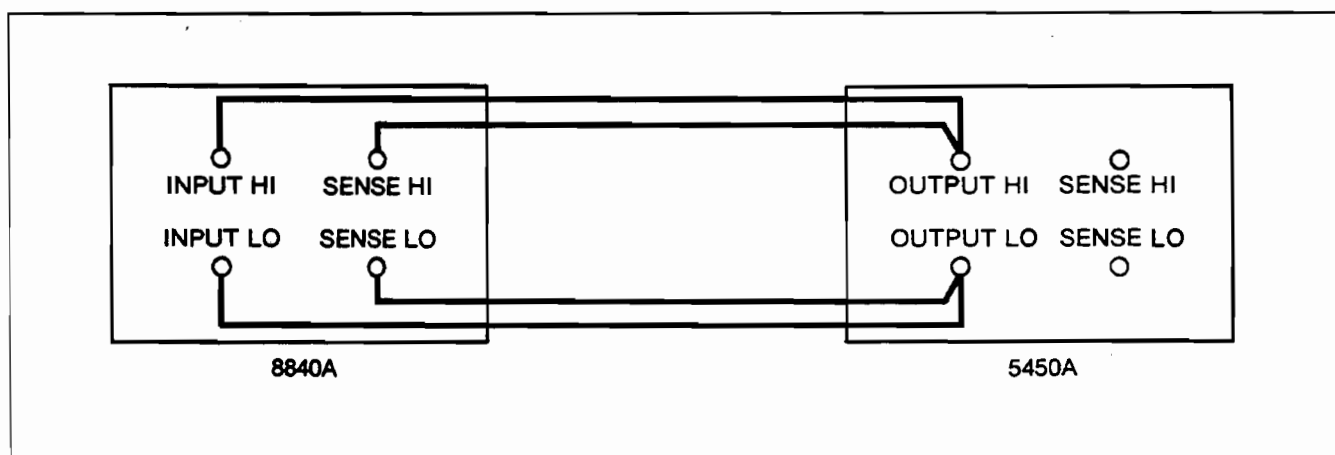

Figure 6-4. Optimizing Use of the 5450A
2. Connect the UUT to the 5450A as shown in Figure 6-4.
13. Using the same configuration shown in Figure 6-4, verify that the UUT measures the same value (within 1 digit) in 2-wire ohms (using the offset feature to correct for 5450A floor error) as in 4-wire ohms. If the readings differ by more than 1 digit, reenable the calibration mode and repeat steps 2 through 8.